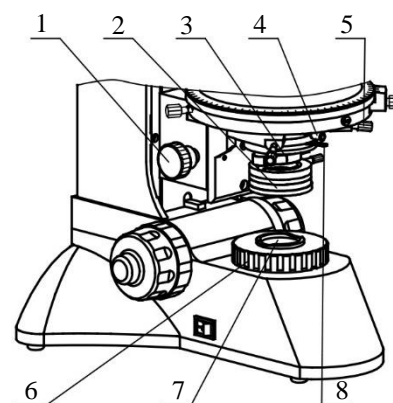

Figure 7
- 5.1. **Condenser Components:** The condenser is located below the stage, see Figure 7. Abbe condenser; its mounting ring with lock screw and two large centering screws at either side. The adjustment knob for raising and lowering the condenser.
- 6.1. The polarizing observation function selected by pushing the analyzer and screwing the polarizer to light path (Figure 7). Rotate both of them to “0” may let the polarizer and analyzer orthogonally namely polarizer with E-W direction of passage, analyzer with N-S direction of passage.
NOTE: If the condenser adjusted, you will adjust the polarizer again, see the Figure 7. Set the analyzer to light path and rotate to “0”. Rotate the polarizer to “0”. Loosen the condenser set screw, rotate the condenser mark the field very dark. Then lock the screw again.